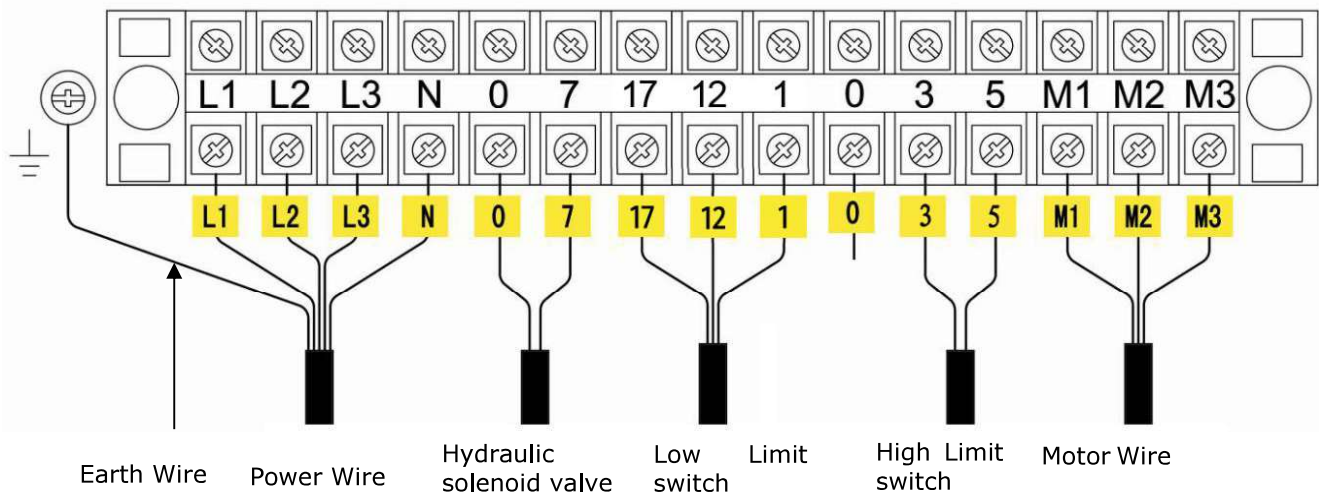

Fig. 14
3.1 Connect the power wire and limit switch wire according to the Wiring diagram (See Fig. 14)